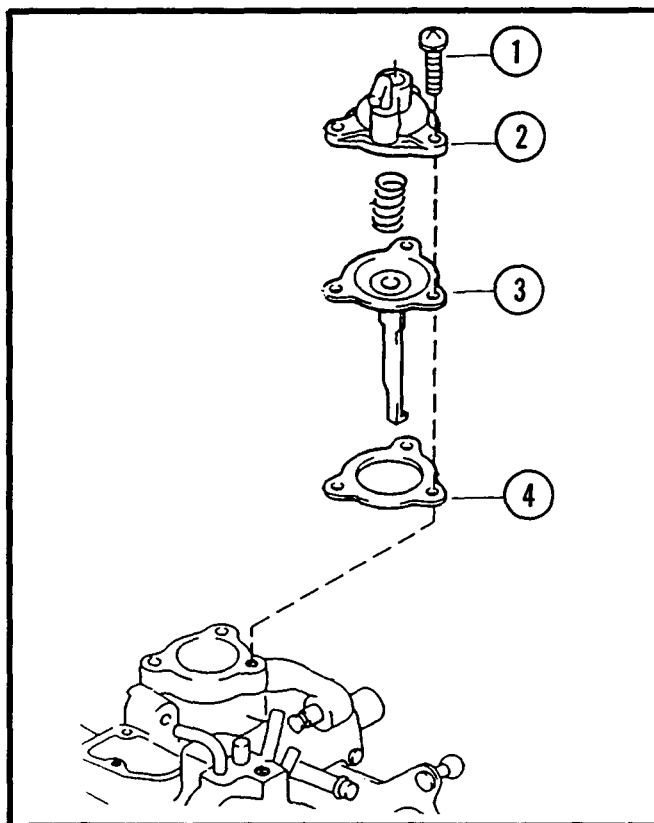

Figure 13.
1. Remove three cover mounting screws, disassemble the cover, spring, diaphragm, and gasket. See Figure 13.